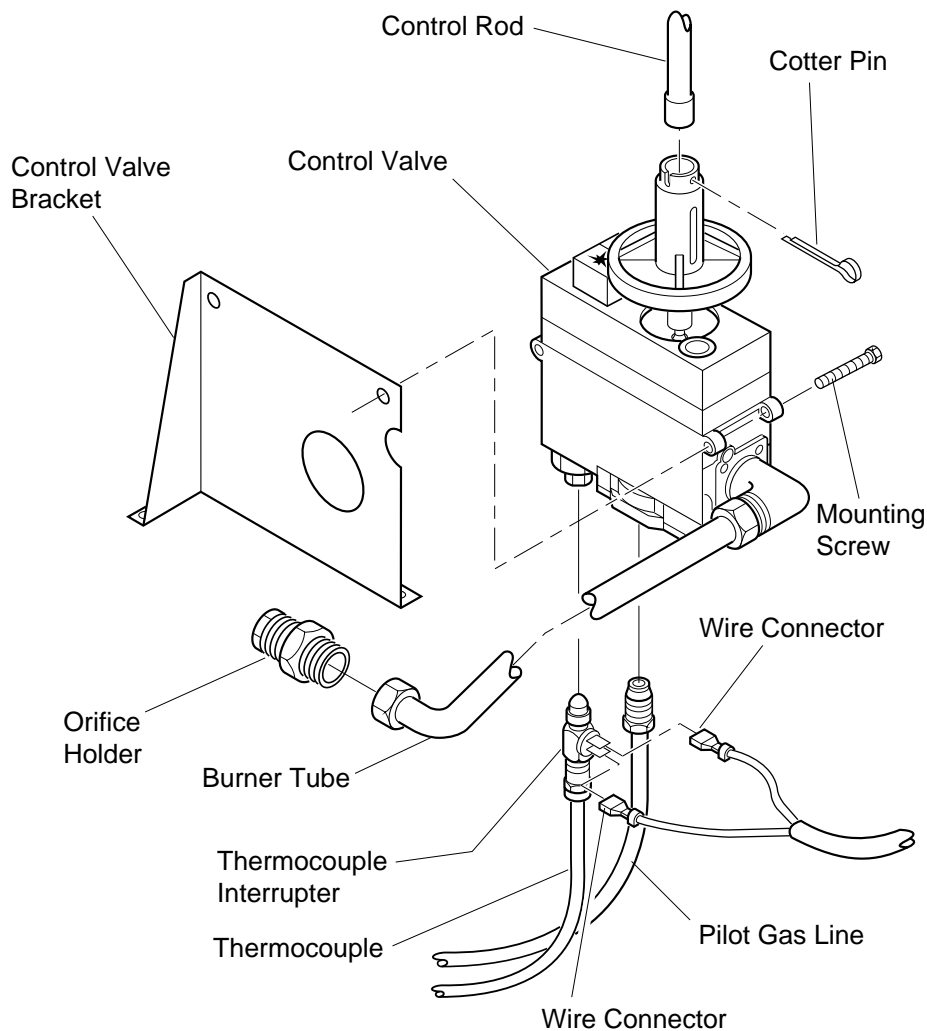

Figure 22 - Removing Control Valve and Burner Tube
3. Disconnect burner tube from orifice holder (see Figure 22).
4. Remove pilot gas line from control valve (see Figure 22).
5. Disconnect wire connectors from thermocouple interrupter (see Figure 22).
7. Remove cotter pin from control valve. This releases the control rod from valve (see Figure 22).
8. Remove the two mounting screws from control valve mounting bracket (see Figure 22).